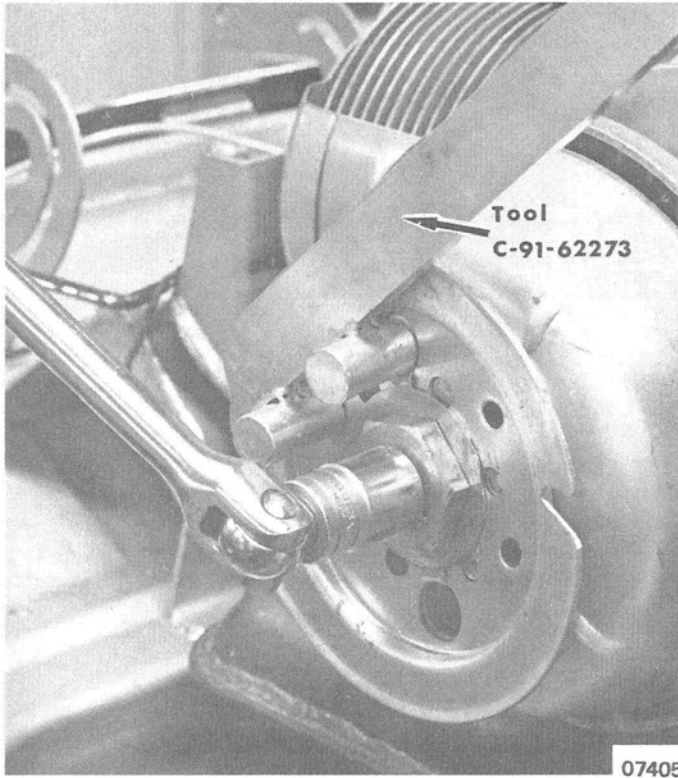

Figure 1. Holding Drive Sheave with C-91-62273 Tool
3. Hold drive sheave with Sheave Holder (C-91-62273) and remove retaining bolt and washer. (Figure 1)